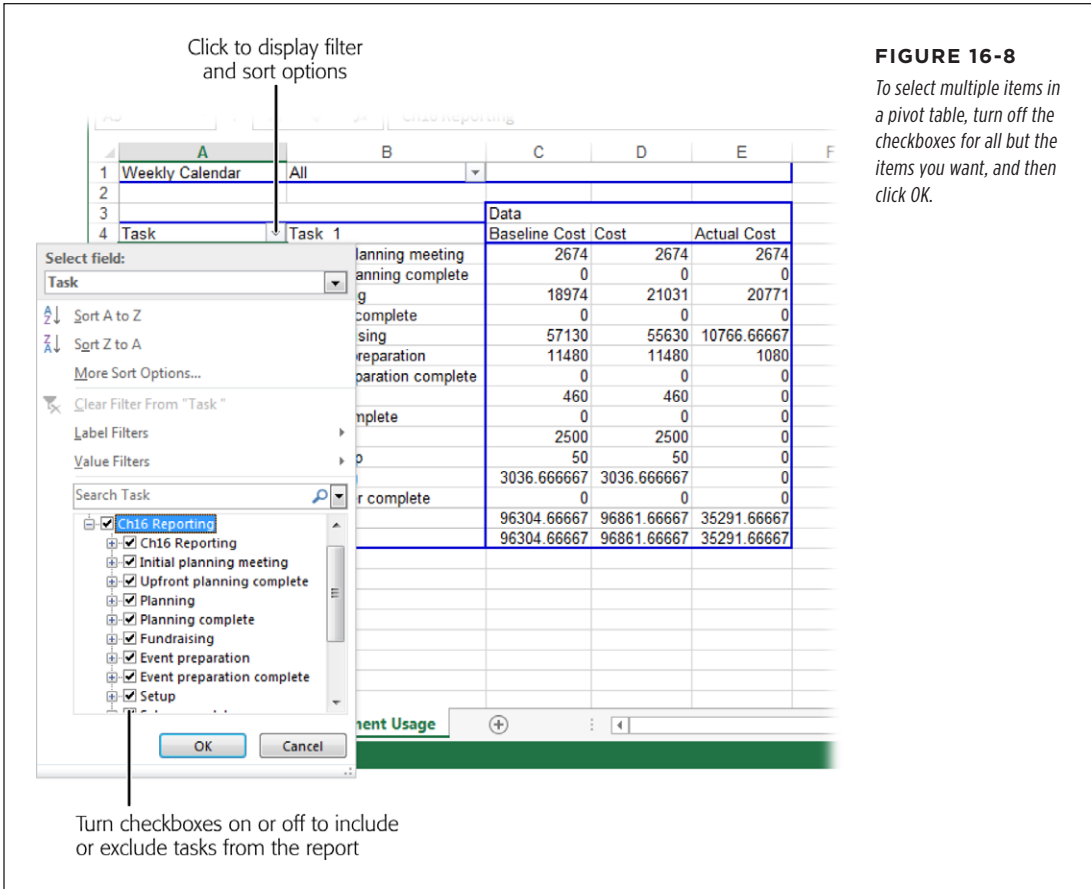

FIGURE 16-8
3. To select specific tasks to display, in the pivot table, click the Tasks down arrow, shown in Figure 16-8.
Initially, this drop-down list shows only the top-level category. When the pivot table is sorted by tasks, you see the name of the project (in Figure 16-8, that’s “Ch16 Reporting”). If you filter by time instead, you see calendar years listed in this drop-down menu.